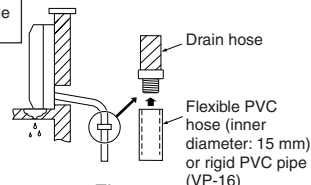

Fig. 6
- If the drain hose is too short, refer to Fig. 6 to extend the length of the hose.